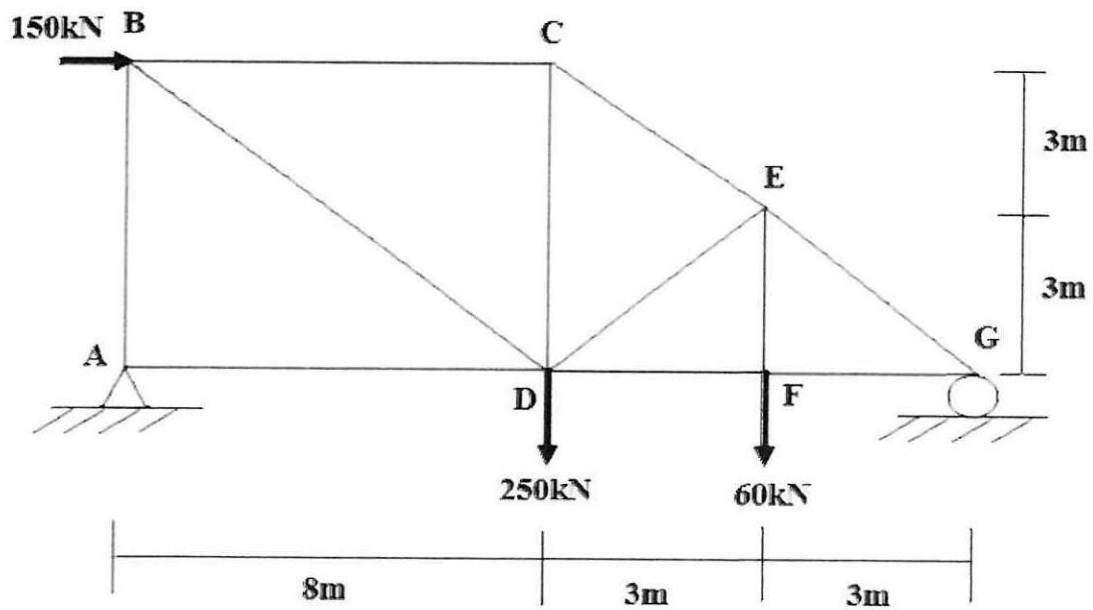

Figure Q5: A Plane Truss
- Q5** A plane truss as shown in **Figure Q5** in **Appendix III** is supported with pin and roller at point A and G respectively. The point loads imposed are 150 kN at point B, 250 kN at point D, and 60 kN at point F.